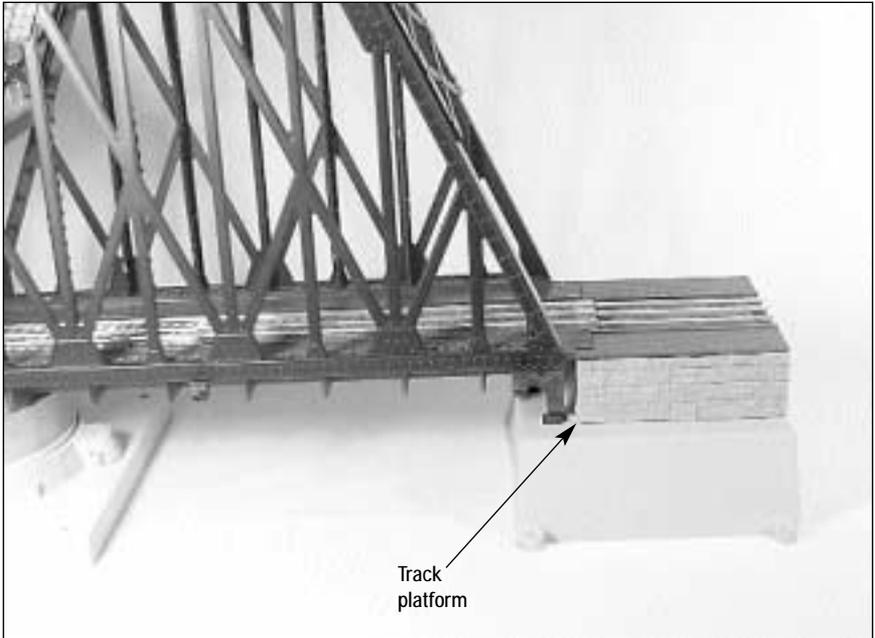

Figure 2. Track platform
5. Use the control lever to operate the bridge a few times. Be certain that the rails on the moving bridge section come to rest on the platform pins after each cycle. Refer to Figure 2.